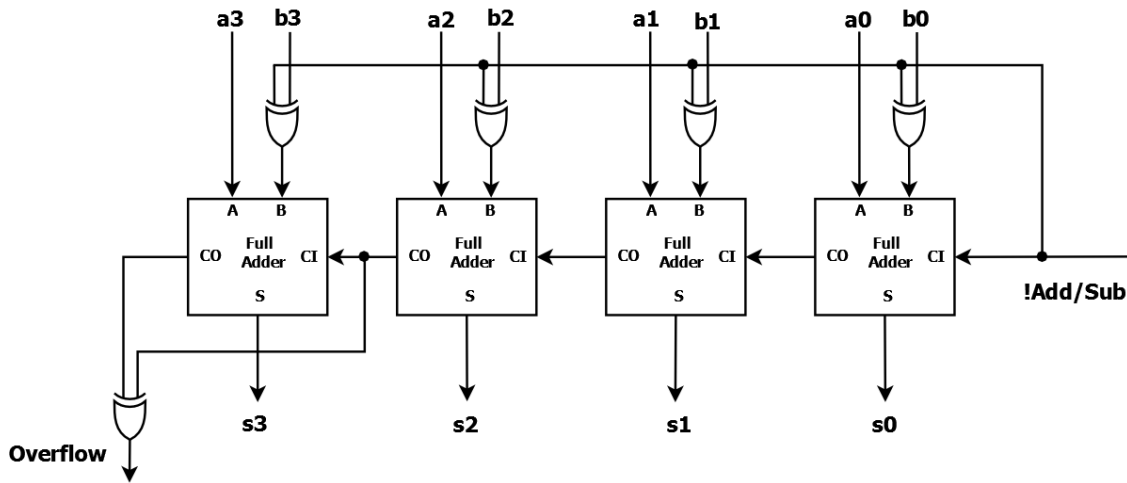

Figure 5: 4-bit Addition/Subtraction Circuit with Overflow Detection
The ALU design discussed earlier can be inefficient because certain ALU operations could share logic. For example, as we learned in the background section of this manual, addition and subtraction both utilize an adder circuit. If we naively designed our ALU, we would create a separate adder circuit for addition and another one for subtraction. However, we can do better by constructing an addition/subtraction circuit as shown in Figure 5.
Remember that subtraction is simply addition in which the B operand is complemented, and to complement a two's complement binary number, we must invert the binary digits and add one to the result. Base on your knowledge of full adder circuits and XOR gates, convince yourself that the diagram in Figure 5 is properly subtracting when **!Add/Sub** is HIGH. Similarly, use Figure 1 and Table 1 to help prove that the overflow detection logic in Figure 5 works as expected. Create the gate-level schematic for the 4-bit addition/subtraction circuit with overflow detection.
1. Examples demonstrating how the circuit in Figure 5 adds and subtracts and how the overflow detection circuit works.